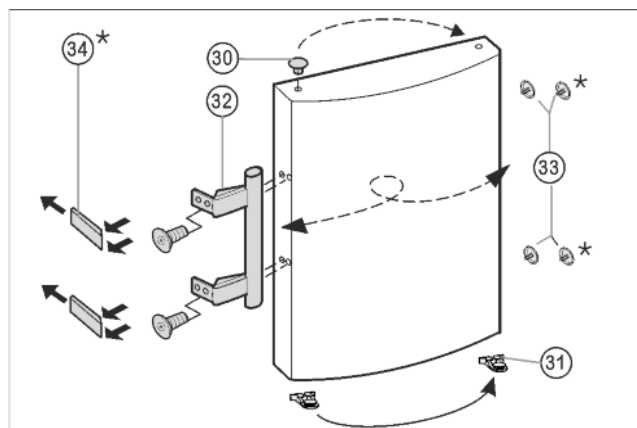

Fig. 7
- Lift the stopper *Fig. 7 (33)* out of the door bearing bush and transfer it.
- Dismantle the door handle *Fig. 7 (32)*, stoppers *Fig. 7 (33)* and pressure plates* *Fig. 7 (34)* and transfer to the opposite side.